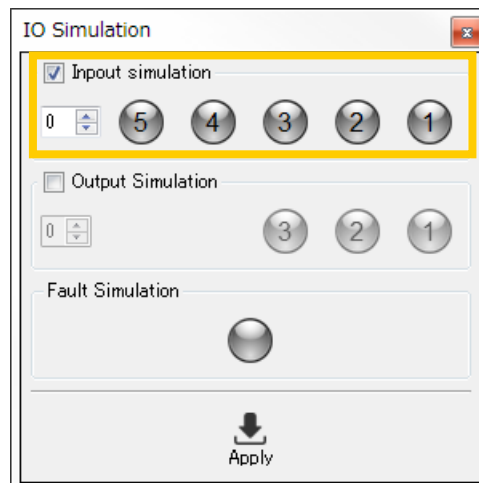

Fig 4.5-2 Display when the check box of input simulation is active
1. This shows when a check mark is placed in the input simulation checkbox or the output simulation for which to perform the test. When a check mark is placed, as illustrated in Fig. 4.5-2, the Numerical input checkbox and the buttons will be active.